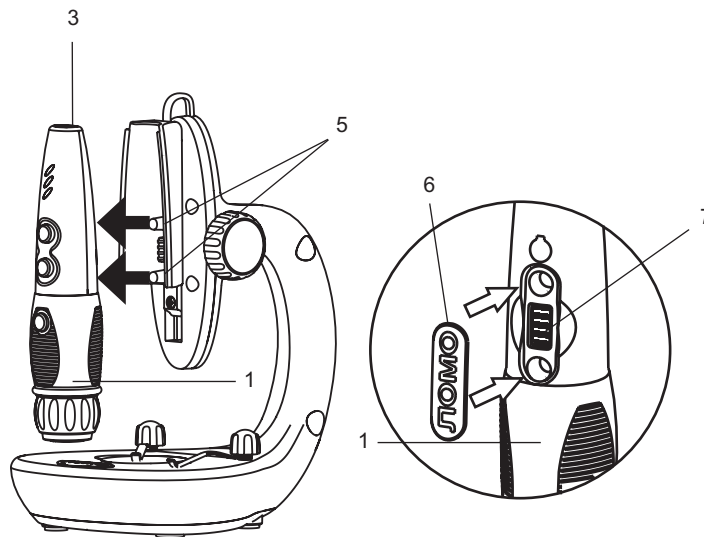

Fig.8b. Getting started to handheld operation mode.
- remove the opto-electronical module **μView™** (1) from the racks (5) in the direction shown by the arrows in fig.8b;
- put the rubber stopper (6) on the opto-electronical module **μView™** (1) to protect the electrical terminals (7) against the accidental contact;
- connect the USB cable to the socket (3) of the opto-electronical module **μView™** (1).